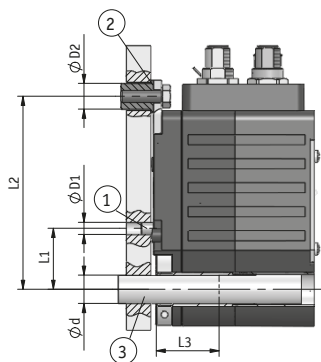
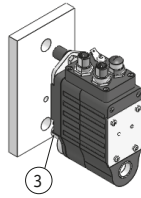
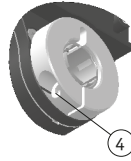
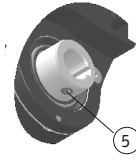

Fig. 1: Mounting dimensions
Fig. 2: Mounting
Fig. 3: Shaft with clamp collar
Fig. 4: Shaft with feather key groove
- ▶ Ensure a low shaft and angle offset between shaft and accommodation bore by applying appropriate manufacturing methods (see **Fig. 1** + **Tab. 1**).
Preparing mounting (Fig. 1, Fig. 2, Fig. 3, Fig. 4):
Mounting (Fig. 1, Fig. 2, Fig. 3, Fig. 4):